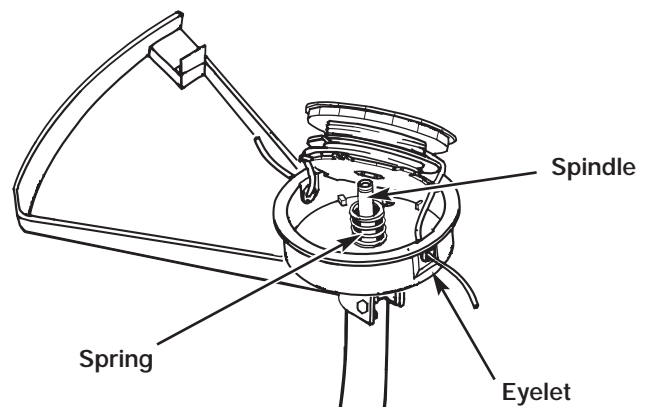

Fig. 17
8. Lower the spool onto the housing while feeding the line through the eyelets. Ensure that the spring seats itself into the spool (Fig. 17).